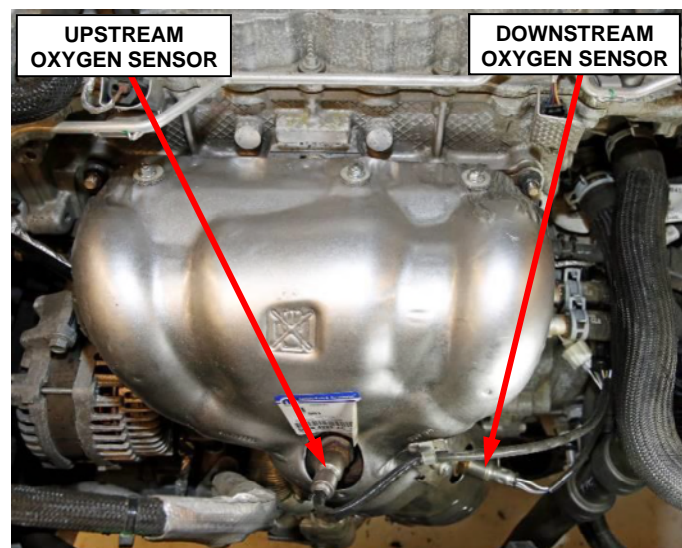

Figure 25 – Oxygen Sensors
39. Install the **NEW** upstream oxygen sensors with black connector and **NEW** downstream oxygen sensors with white connector to the mainverter. Tighten the oxygen sensors to 29 N·m (36 ft. lbs.) (Figure 25).